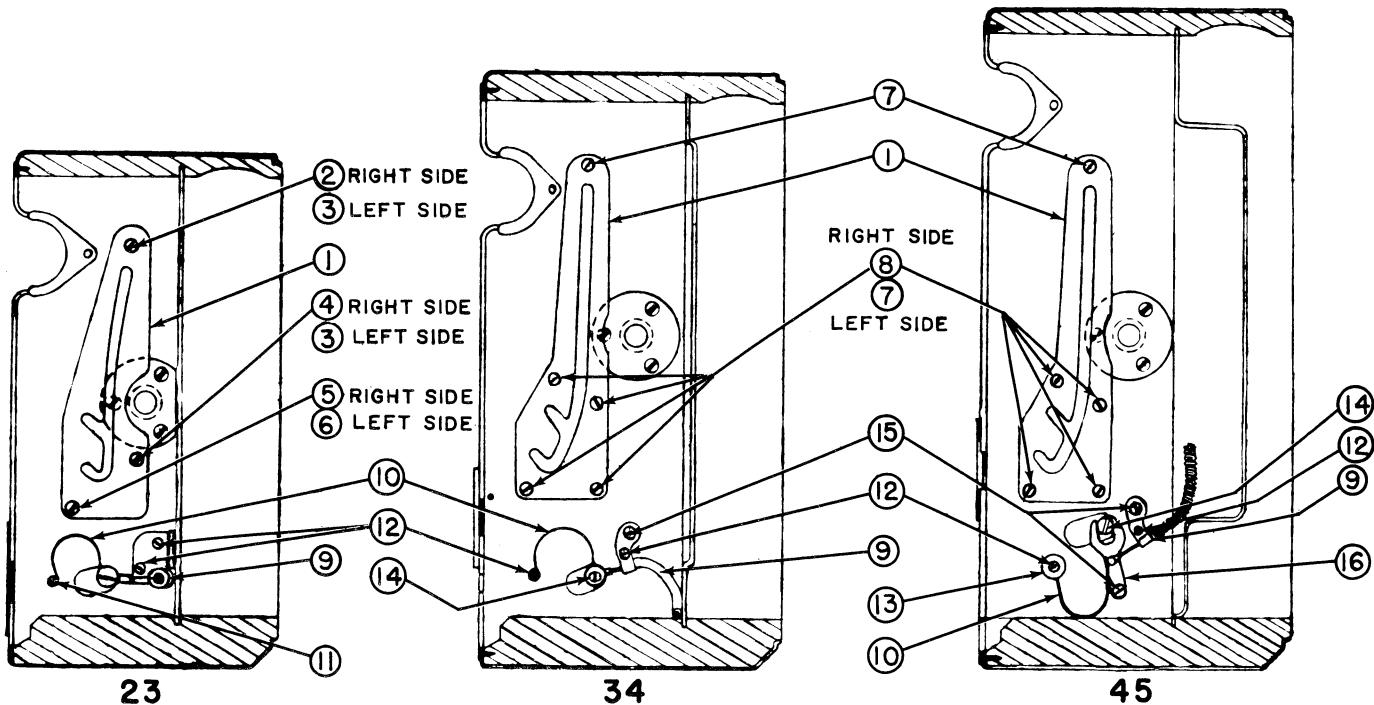

Figure 11. Right Bed Brace Plate and Cable Release Mounting
7. Cable Release Replacement. Attach the cable release assembly (4) as follows:
(a) On "23" cameras: Attach the cable mounting clip with two wood screws (12). Place the large loop end of the spring (10), as shown in figure 11, over the stud of the body release lever, which extends inside the case, and retain by securing the end of the cable to the stud with machine screw (14). Secure the small loop end of spring (10) to camera body with wood screw (11).
(b) On '34' cameras: Follow the same procedure as for the "23" camera. Refer to illustration in figure 11.
(c) On "45" cameras: Attach the cable mounting clip with wood screws (12 and 15). Position the fork of the cable release lever (16) around the stud of the body release lever, which extends inside the case, and assemble the lever mounting screw (15) at the bottom of the cable release lever. Assemble the special block screw (14) to secure the lever fork in position with the body release lever stud. Assemble the washer (13) through the wood screw (12) and anchor the large loop end of the spring (10) as shown in figure 11.
(b) Remove the right and left bed brace plates (1, figure 11) that are secured by screws as illustrated in figure 11.
(c) On "23" cameras: Attach the left bed brace plate (1, figure 11) with one wood screw (3) at the top, screw (3) at the side and screw (6) at the bottom. Attach the right bed brace plate with one wood screw (2) at the top and one wood screw (4) at the side and screw (5) at the bottom.